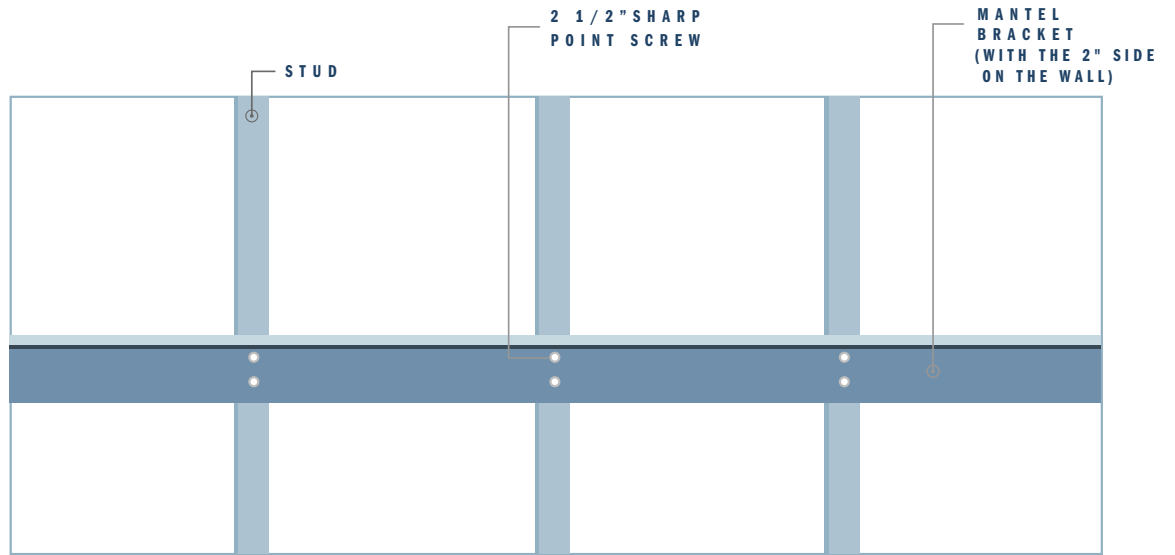

Figure 1: Front Mount
- A minimum of 3 studs are required to safely install a 5 ft. mantel. Minimum of 4 studs for 6 ft. mantels. Using 2 1/2" sharp point screws, attach mounting bracket to studs with two screws per stud. See **Figure 1** on page 5 for details.